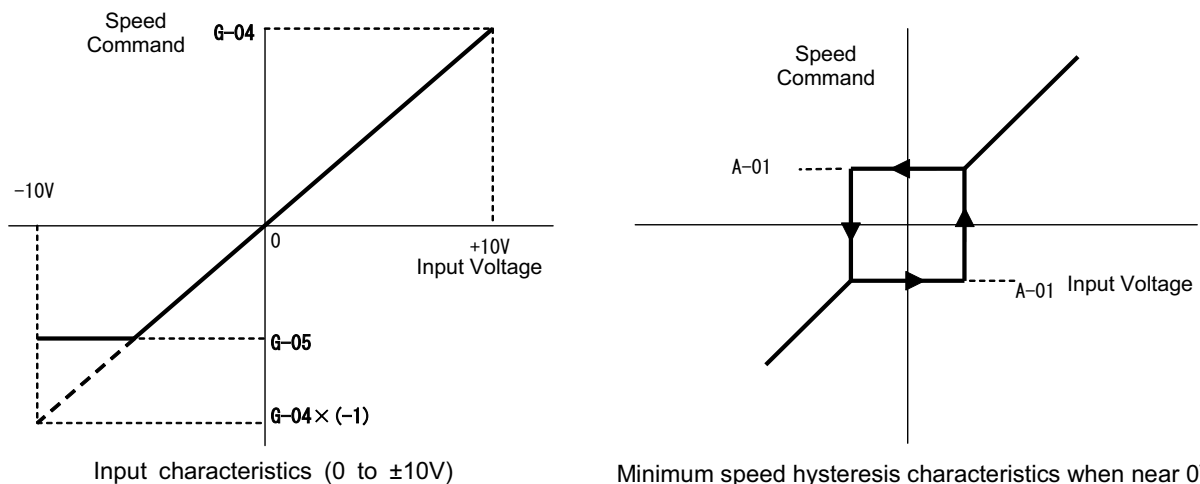

Figure 5.2 Speed command characteristics with voltage input of 0 to $\pm 10V$
The rotational direction can be reversed by setting the command input voltage to a negative value. The speed command value is set as the Analog Input (2) upper limit speed (G-04) when the input is +10V. When the input is -10V, it is set as the negative value of the Analog Input (2) upper limit speed (G-04). However, it is possible to set a lower limit by setting the Analog Input (2) lower limit speed (G-05). (Figure 5.2, left) If the minimum speed (A-01) is other than "0", the speed command absolute value is controlled to prevent falling below the minimum speed. In this case, when the command input voltage is around the 0V range, its behavior shows hysteresis characteristics (It will run forward if started in the forward direction and will run in the minimum reverse speed if started in the reverse direction) as shown in the right side of Figure 5.2.